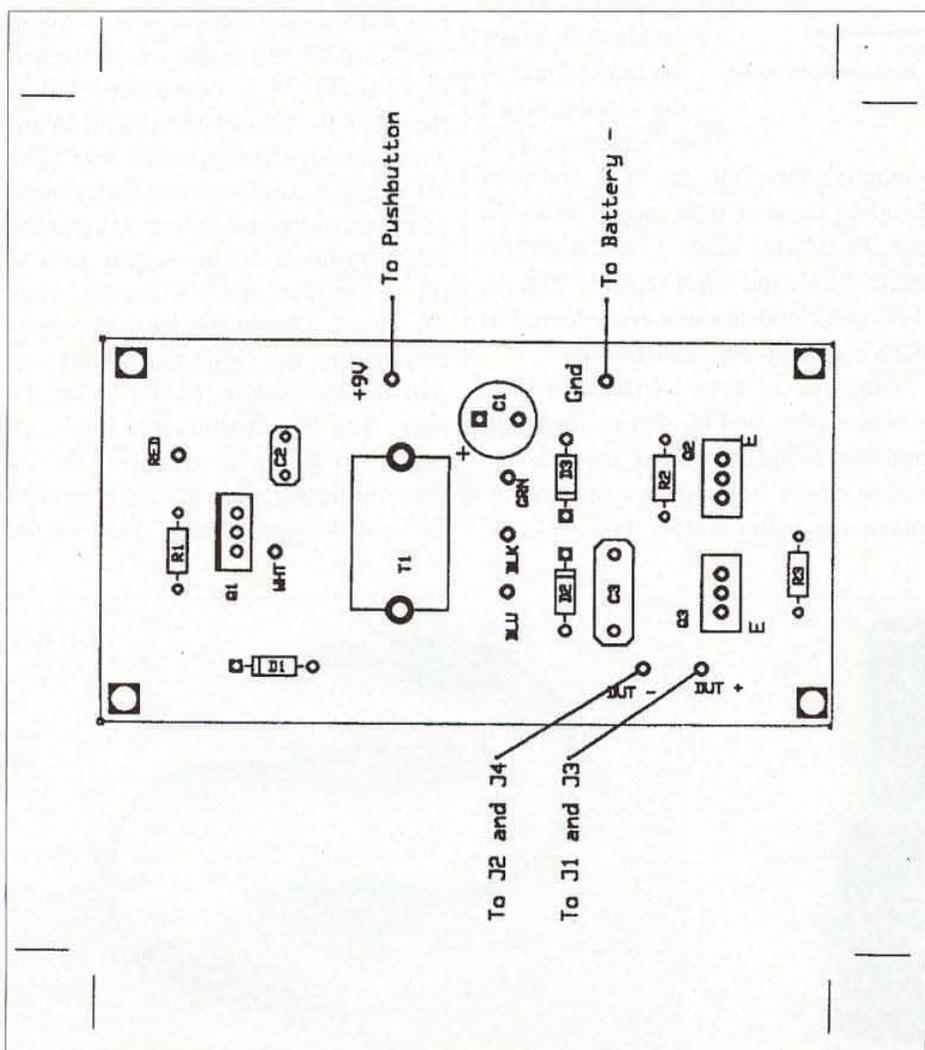
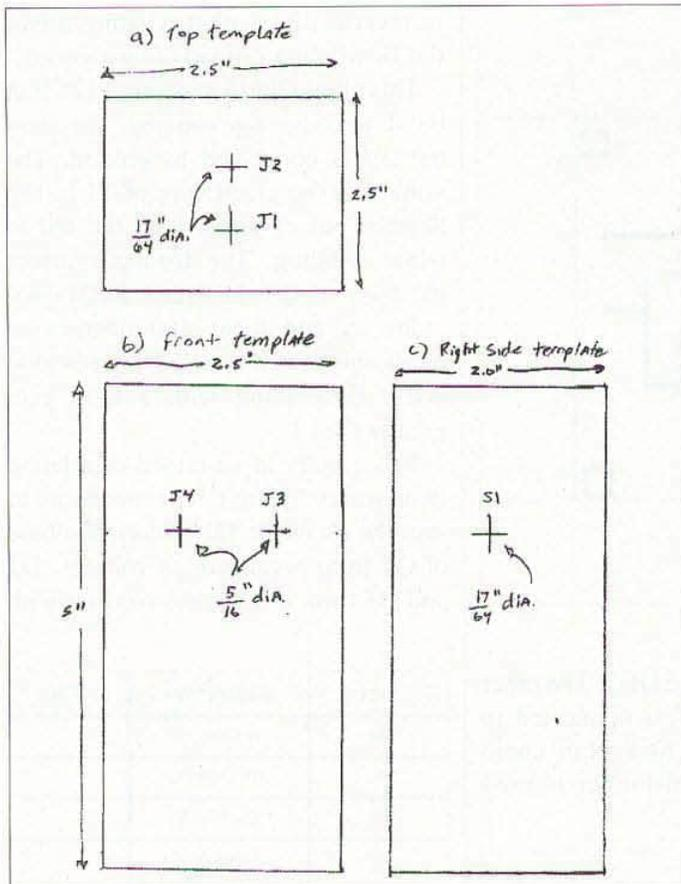
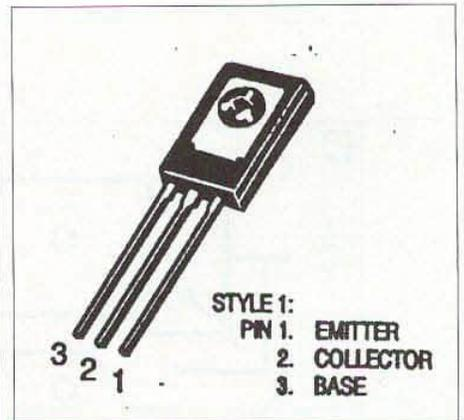

Fig. 3. Component placement diagram.
Fig. 4. Drill template: (a) top template, (b) front template, (c) right side template.
Fig. 5. Transistor designations.
mounting tabs into the PCB and then bending them at right angles. Pads on the PCB are marked RED, WHT, BLU, BLK, and GRN (refer to Fig. 3). T1's color coded wires are soldered to each corresponding solder pad.
Obtain a 1x copy of the drill templates shown in Fig. 4. Cut them out and tape to the case. Next, mark the location of the holes with a punch. Remove the patterns and then drill the
board (PCB) artwork for the tester. Component placement is given in Fig. 3. Part values are referenced in Table 1. First, install the resistors and diodes in the PCB. Then mount the capacitors and transistors. Note that Q2 and Q3 are facing opposite directions. For proper mounting, examine the pin designations of the MJE340 in Fig. 5 and the emitter (E) marking in the component placement diagram in Fig. 3. After Q2 and Q3 are installed, mount the transformer to the circuit board by inserting T1's
holes in the case as shown in Fig. 4. Solder six inches of red wire to J1 and six inches of black wire to J2. Then, mount these connectors in the appropriate holes in the case. Mount J3 and J4 to their holes in the lid. Examine Fig. 3 for the connections of the test jacks. Solder the red wire attached to J1 to J3.